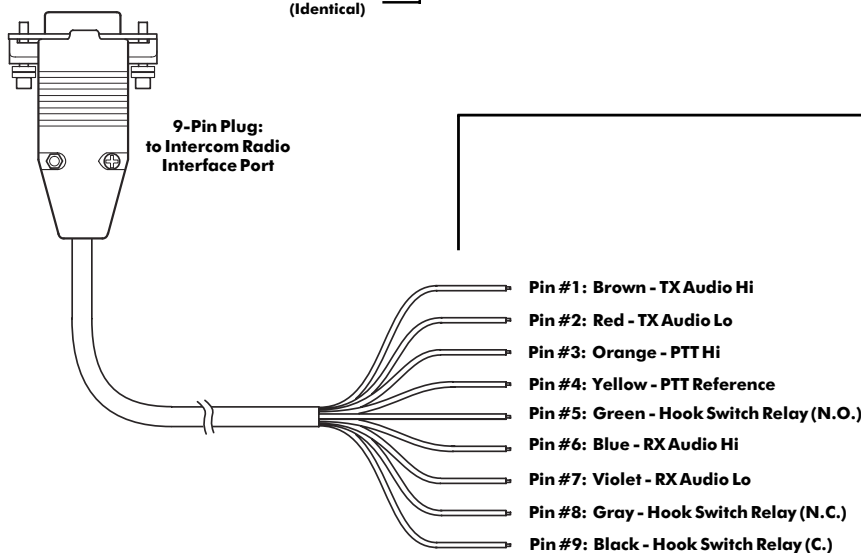

FIGURE 17:
25. Using the information in Figure 17, connect the wires on the MR-0X Mobile Radio Interface Cable to the appropriate places on the 2-way radio.